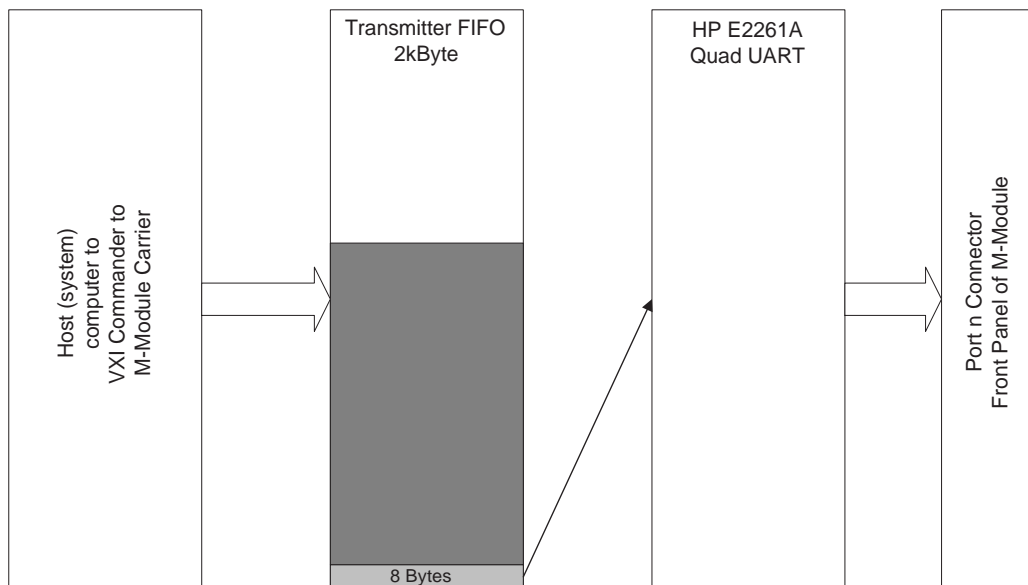

Figure 4-3. Transmitter Data Flow
The following discussion describes general transmitter operation. If you are not using the supplied driver (either SCPI or *VXIplug&play*), then you must follow these guidelines. Refer to Figure 4-3.
2. The host then sends data to be transmitted to the Port Transmit/Receive Register (Register Address 40_h , 42_h , 44_h , or 46_h). This automatically sends the data to the Transmit FIFO (See Figure 4-3). If the Transmit FIFO changes from more-than-half-full to half-full, an interrupt occurs, the host (system) computer can then send up to 1kBytes of data. If the transmitter FIFO changes from non-empty to empty, an interrupt occurs, and the host can send up to 2kBytes of data.